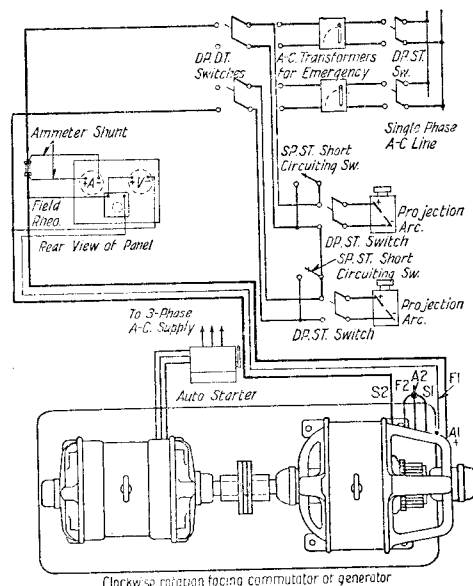

Fig. 11—Series Arc Equipment
also the short circuiting switch on each projection machine, see (Fig. 11). Turn the contact arm of the field rheostat to the extreme position marked "lower voltage", and then start the motor as explained below.
90. **Emergency Service**—(Fig. 11), shows provision for emergency service in case of trouble with the motor-generator. Before connecting the lamp circuits to the emergency service (by throwing the two pole, double throw switches to the right) be sure to open the short circuiting switches on each machine. If this is not done, the emergency circuit will be short circuited by these switches and fuses may possibly be blown.